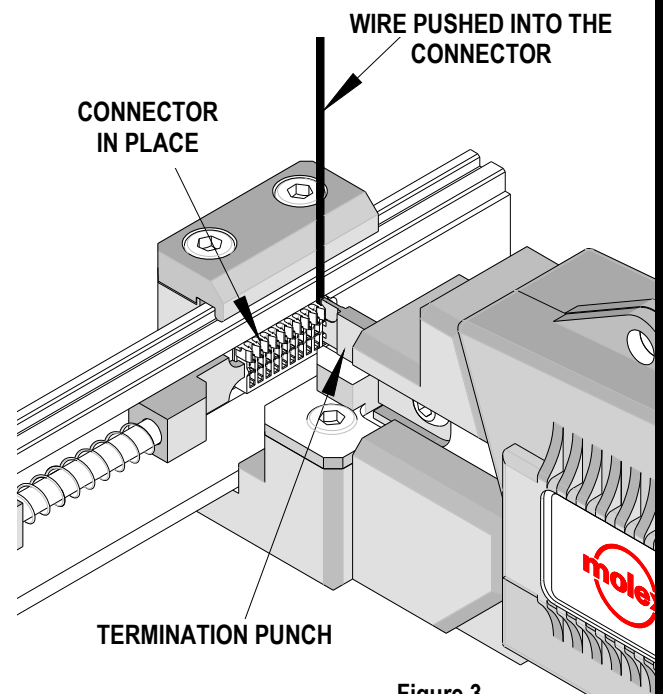

Figure 3
6. While holding the wire in place, squeeze the handles together, the termination punch will terminate the wire into the connector. See figure 3.